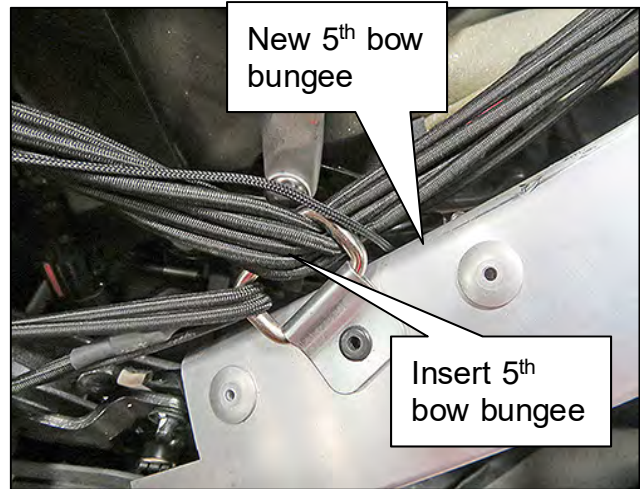

Figure 22
26. Insert the 5th bow bungee (BUNGEE-5TH BOW) through the bracket assembly installed in step 15 (Style A) or 24 (Style B) (see Figure 22).